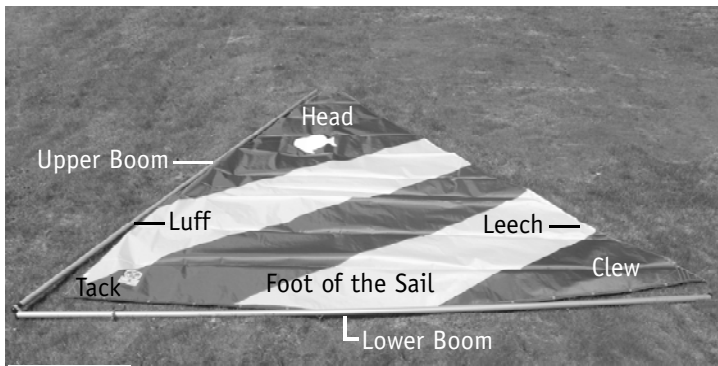

Figure: 25
3. Align the lower boom along the foot of the sail and the upper boom along the luff (Figure 25). The Sunfish logo should face the upper boom; the boom that does not have any blocks attached.
3. Align the lower boom along the foot of the sail and the upper boom along the luff (Refer to Figure 25). The Sunfish logo should face the upper boom; the boom that does not have any blocks attached.